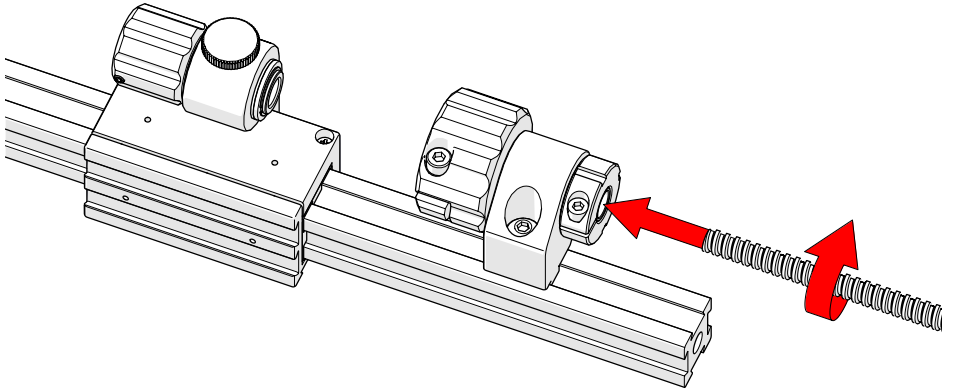

Fig. 63 - Insert leadscrew into main knob and slider
5. Rotate the leadscrew to insert it into the main knob and slider (Fig. 63).